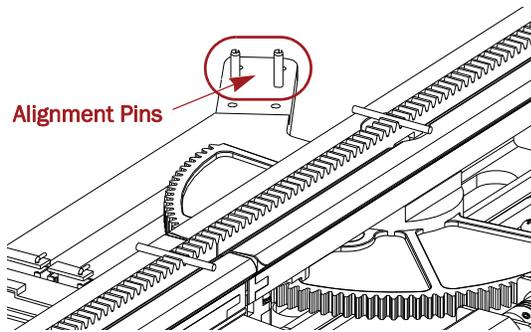

Figure 14. Rear Z-Axis Alignment Pins on Track Plate
3. Verify that the Screw Rail bracket clears the track plate **alignment pins** (Figure 14).